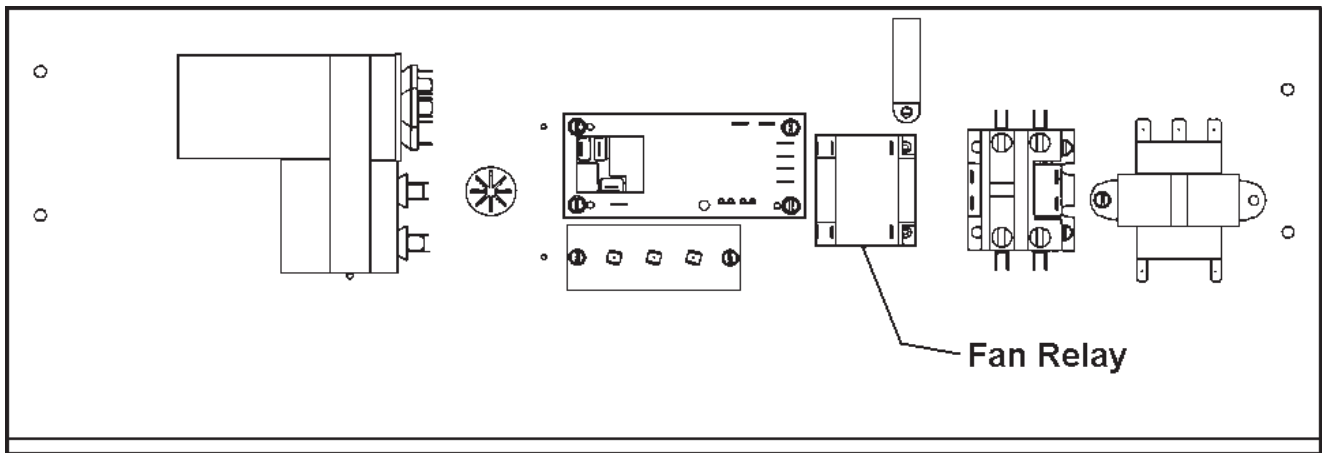

Figure 1
3. With chassis removed attach the fan relay to the control panel at the location shown in Figure 1.